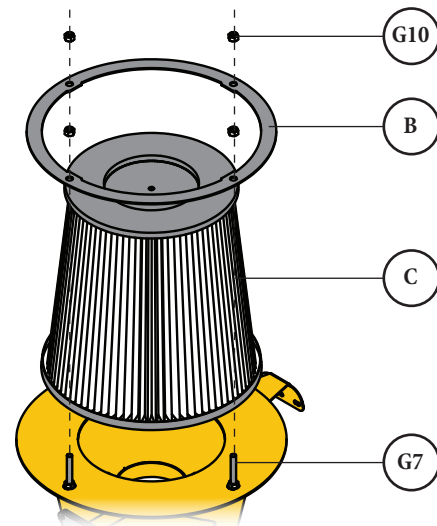

FIG. 16
Slide the Filter Hold-Down Ring (B) over the Filter (C) and the previously installed bolts (G7) and secure in place using four Nylock Nuts (G10) [FIG. 16].